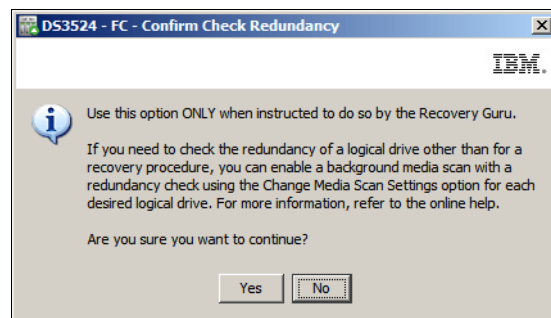

Figure 14-152 Confirm Check Redundancy
2. The window shown in Figure 14-152 will be displayed.